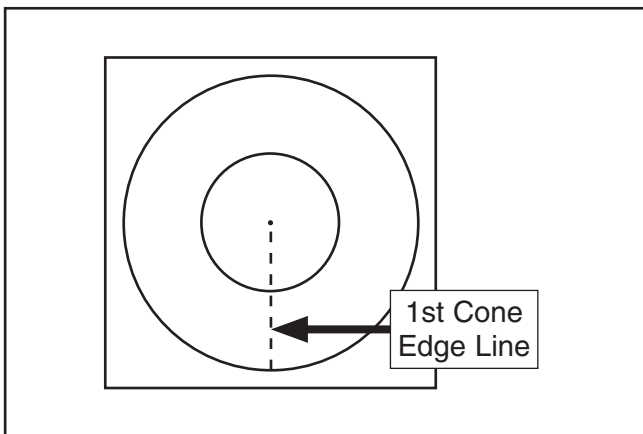

Figure 45. Straight line from center to outer circle.
6. Mark straight line from center point mark to outer circle (see **Figure 45**). Location of this line does not matter.